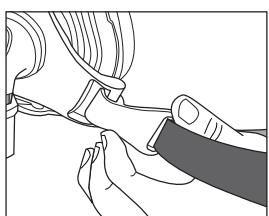

Figure 2
1. Disconnect one headgear clip before putting on the headgear (Figure 2) by turning the clip outward, just like you would turn a key.